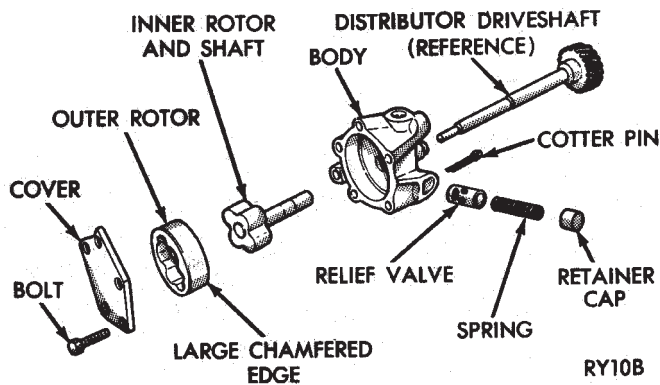

Fig. 4 Oil Pump
(2) Remove oil pump cover (Fig. 4).
(3) Remove pump outer rotor and inner rotor with shaft (Fig. 4).
(4) Wash all parts in a suitable solvent and inspect carefully for damage or wear.